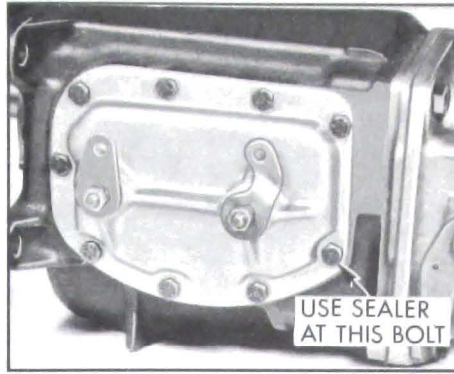

Figure 4-51—Transmission Side Cover Assembly
3. With transmission in neutral and shifter forks and levers in place, lower side cover into place. Install attaching bolts, using sealer on lower right bolt (see Figure 4-51), and tighten evenly.